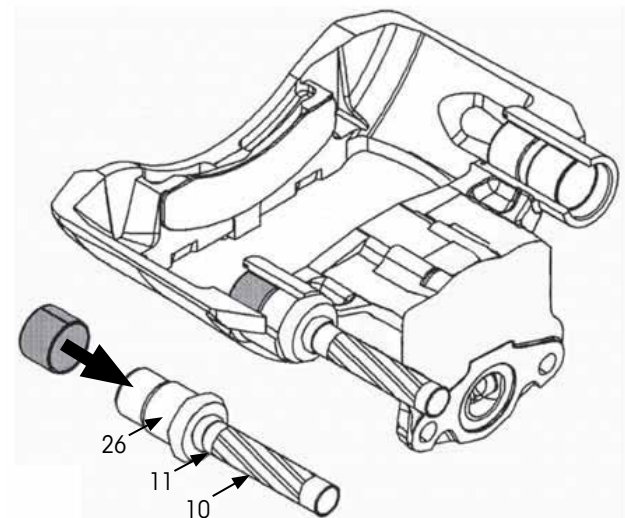

Figure 61: Inserting short guide bushing
2. Assemble and use 10, 11 and 26 to press a new bushing for the short guide pin into the bore of the brake caliper until the tool stops (Figure 61).